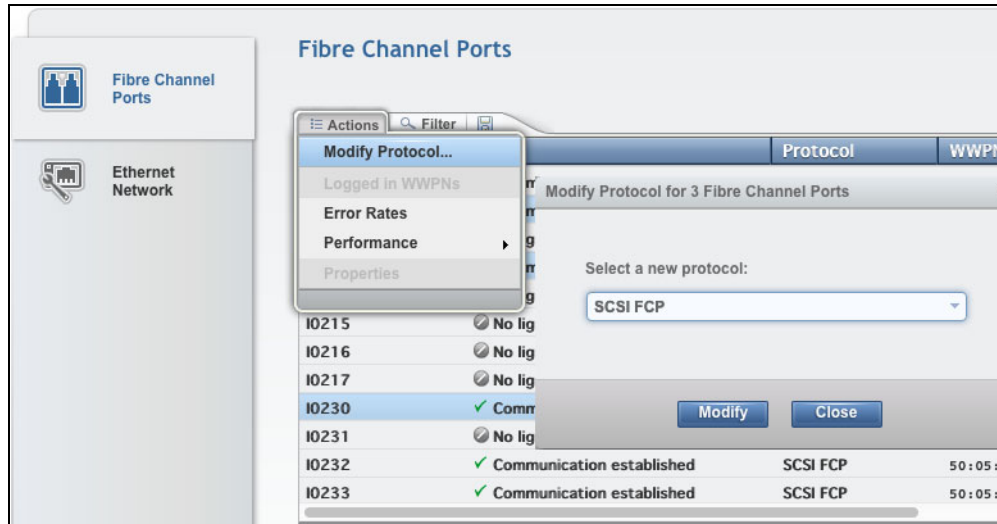

Figure 11-63 Modify Fibre Channel Port: Select a new protocol: Single or multiple 16 and 8 Gbps ports
3. From the Actions tab, click **Modify Protocol** to open the Modify Protocol window, as shown in Figure 11-63.